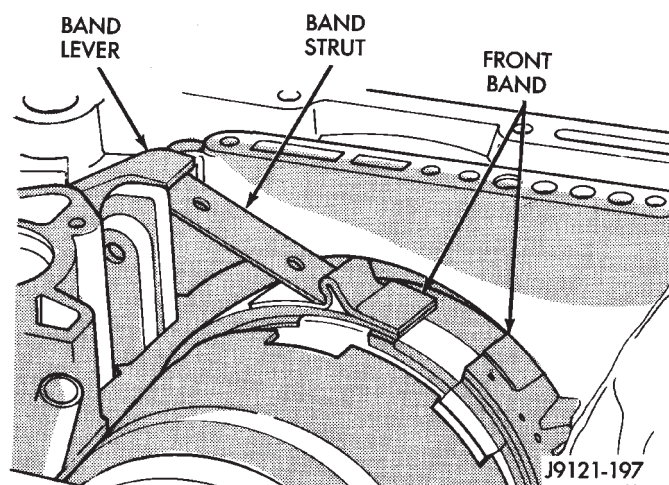
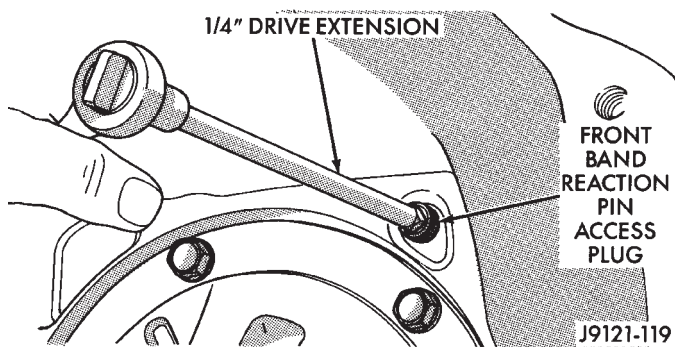

Fig. 148 Front Band Linkage Installation
Fig. 149 Installing Front Band Pivot Pin Access Plug
(3) Install front band lever, strut, lever pin and adjusting screw (Fig. 148).
(4) Tighten front band adjusting screw until band just grips clutch retainer. Verify that front/rear clutches are still seated before continuing.
(5) Coat band lever pin access plug with sealer and install plug in converter housing (Fig. 149).